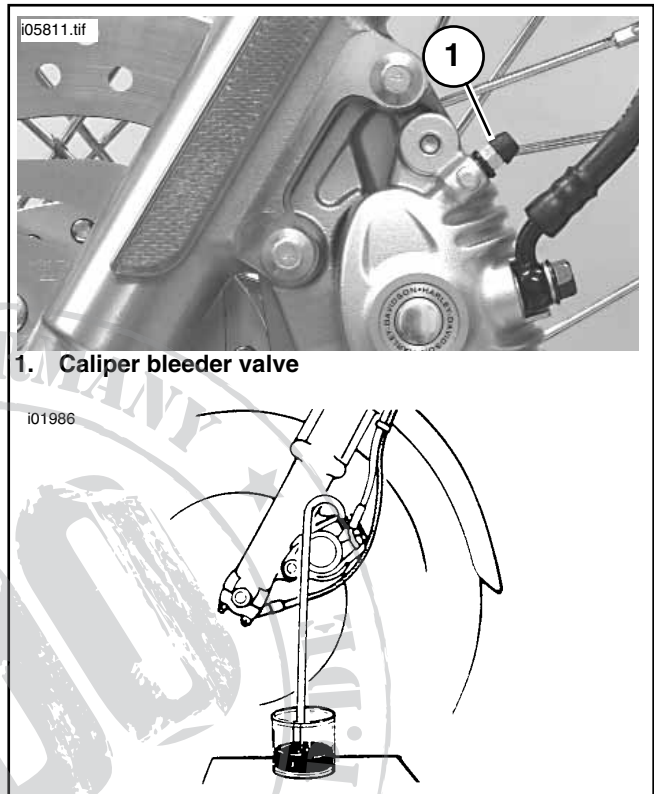

Figure 1. Draining Brake Fluid
2. See Figure 1. Open the bleeder nipple cap on the front brake caliper. Obtain a length of plastic tubing. Install one end of the tubing over the caliper bleeder valve (1). Place the free end of the tubing into a suitable container. Open the bleeder valve about 1/2-turn and pump the front-brake hand lever to drain the fluid out of the front brake system. Do not reuse brake fluid.